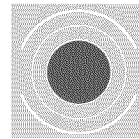
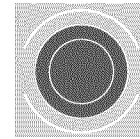
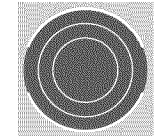

Fig. 2
Fig. 3
Fig. 4
3. Press **ELEMENT SIZE** keypad and toggle to select the single (Fig. 2), double (Fig. 3) or triple (Fig. 4, if available) expandable element size setting.